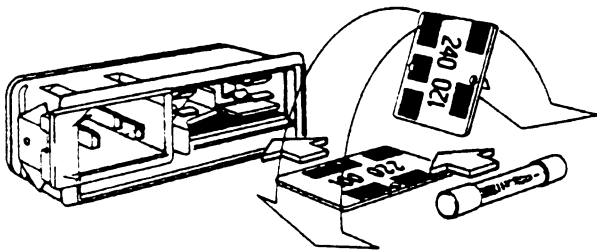

Figure 2-1 . Voltage Selector and Fuse
Conversion to other input voltage requires a change in rear panel fuse holder voltage card position and fuse (figure 2-1) according to the following procedure.
2. Read the voltage on the voltage selection printed circuit card inside the power/fuse case. Leave the card installed if the number matches the voltage needed (see the table below). To change to a different voltage, pull the card and reinsert it as shown in figure 2-1.